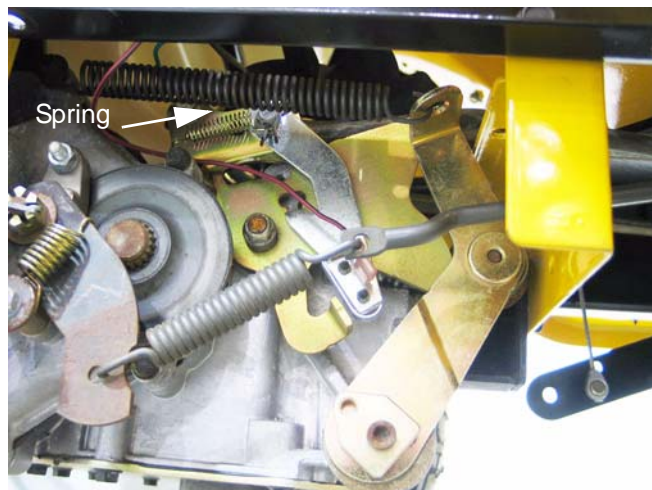

Figure 31.34
31.34. As the hydro control rod is pushed rearward, it draws the cam (front) surface of the input arm upward, forcing the neutral return arm forward, applying more tension to the return spring. See Figure 31.34.